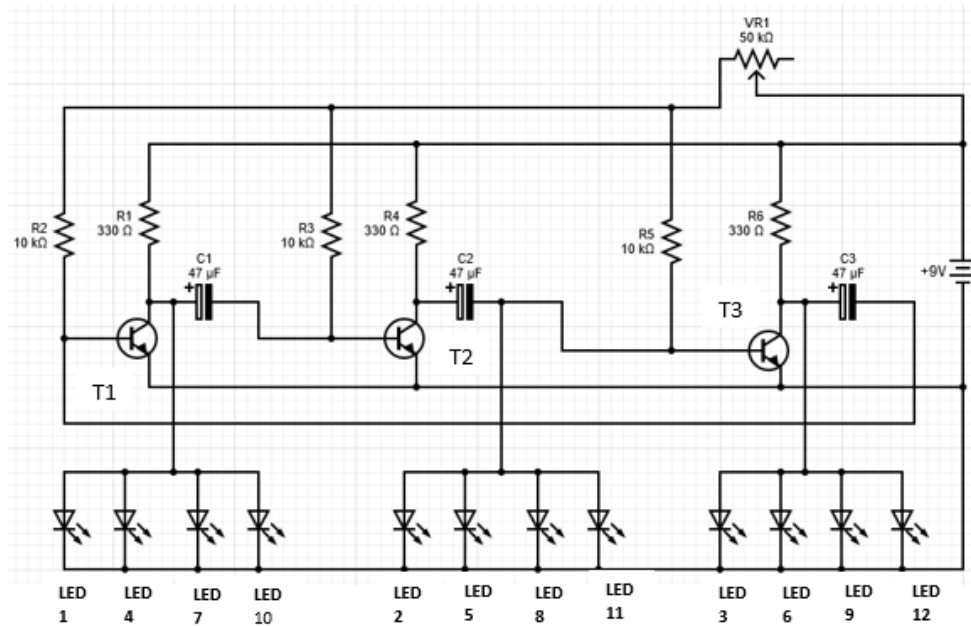

Fig. 4. The Running LED Chaser with three transistors
*3.1.2. Adding one more transistor —* The running LED effect is created with the blinking of three sets of LEDs which flash at definite intervals. To drive these three sets of LEDs, we need three transistors, three capacitors, three base resistors and three collector resistors. This means, we are in need to one transistor, one capacitor one base resistor and one collector capacitor in addition to what we already have. Let’s connect these additional elements and draw the circuit again (Fig. 4).